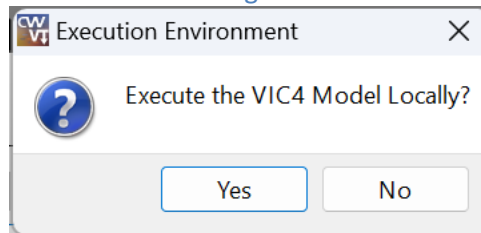
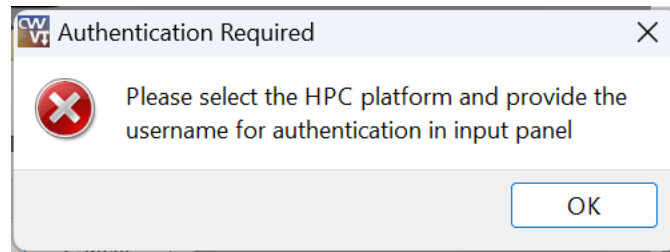
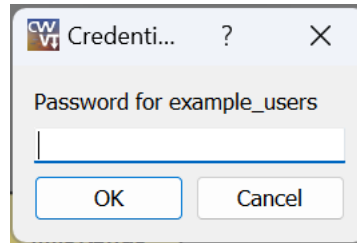

Figure 38. The prompt window asks users whether to execute the VIC4 model locally.
Figure 39. The warning window to ask user to configure the HPC entrances in input panel.
Figure 40. The credential prompt to ask user type in their password to access the HPC platform.
- To initiate the workflow, users simply click the “execute” button. During the processing of the VIC4Agent\_g module, a prompt will appear, inquiring whether the user wishes to run the VIC4 model locally, as depicted in Figure 38. Choosing 'Yes' triggers the model to execute on the user's machine. On the other hand, selecting 'No' leads to a different scenario. If the user has not previously configured the High-Performance Computing (HPC) settings in the input panel, a warning message will emerge, as shown in Figure 39. This message reminds users to enter the necessary HPC information in the input panel. Once the HPC details are provided and the user opts to execute the model remotely upon re-executing the workflow, a password prompt will appear. This prompt requests the user's password for accessing the HPC platform, ensuring secure and authorized use of the resources in Figure 40.